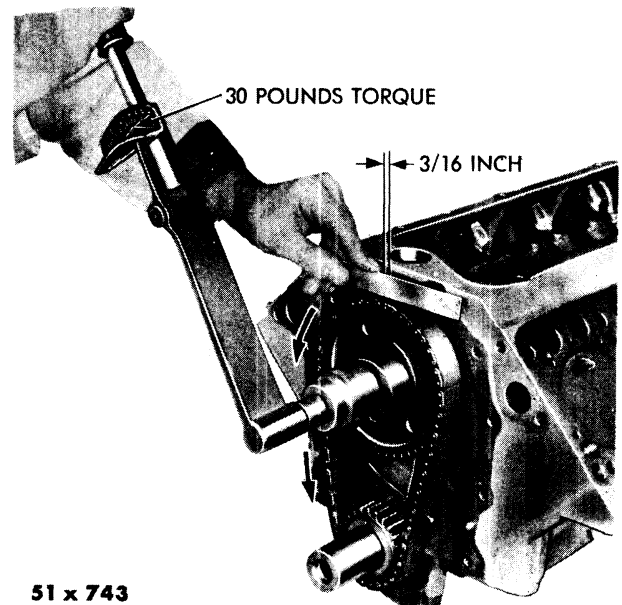

Fig. 106—Measuring Timing Chain Stretch
- (1) Place a 1¼ inch socket over the camshaft gear nut and attach a torque wrench to the socket.
- (2) Apply 30 foot-pounds of torque in the direction of crankshaft rotation to take up slack. Holding the scale with the dimensional reading even with the edge or a chain link, apply 30 foot-pounds torque in the reverse direction and note the amount of chain rotation. (See Fig. 106.) If the movement of the chain is greater than ⅜ inch, as indicated by the stationary scale, install a new timing chain.